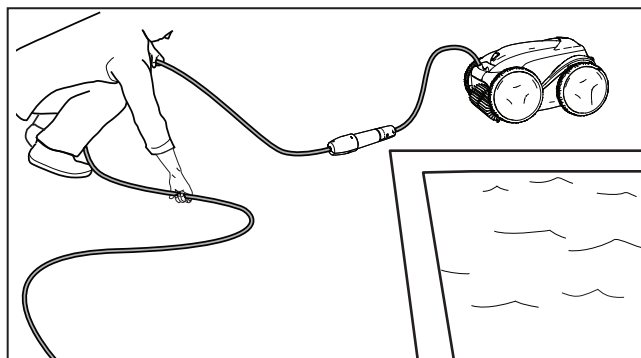

Figure 25. Untangle the Floating cable
2. Starting at the cleaner head. Remove all coils and tangles from the floating cable (Figure 25).